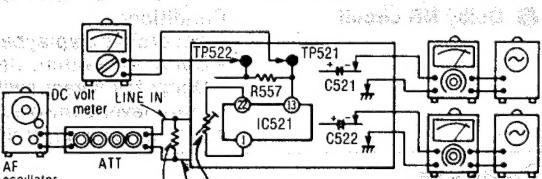

Fig. 25
- Make the connections as shown in fig. 25 and apply 1kHz -27dB signal from LINE IN, and set the noise reduction selector to dbx IN position.